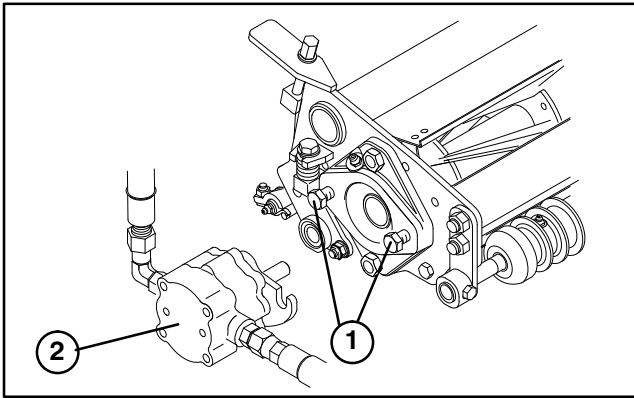

Figure 13
7. Assemble the mounting capscrews for the reel drive motor to each cutting unit. Leave approximately 1/2 in. of threads exposed on each mounting capscrew (Fig. 13).
10. Coat the spline shaft of the motor with clean grease and install the motor by rotating the motor clockwise so the motor flanges clear the studs. Rotate the motor counter-clockwise until the flanges are encircling the studs and tighten the mounting capscrews (Fig. 13).